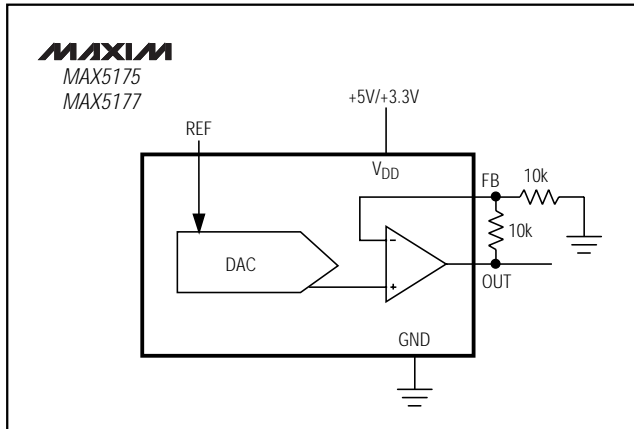

Figure 6. Unipolar Output Circuit (Rail-to-Rail)
Figure 6 shows the MAX5175/MAX5177 configured for unipolar, rail-to-rail operation with a gain of +2V/V. Table 2 lists the codes for unipolar output voltages. The output voltage is limited to VDD.
**Table 2. Unipolar Code Table (Circuit of Figure 6)**